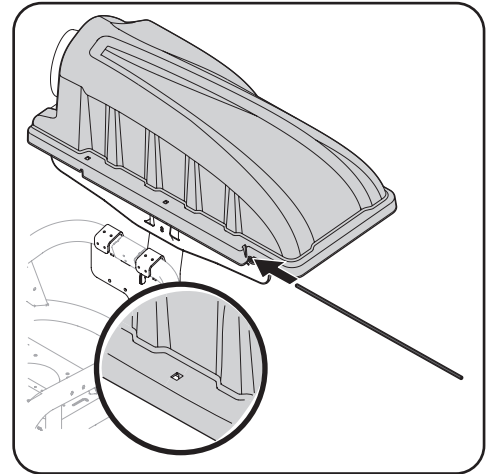

Figure 4-12
6. Slide the hinge pin into the hole located on the mounting tab, as shown in Figure 4-12. Use the cut-out windows (see inset in Figure 4-12) to line up the hinge pin on the other side and push pin all the way in until it reaches the end-stop. At this point the pin clips into place and is secured by a tab in the bagger cover.